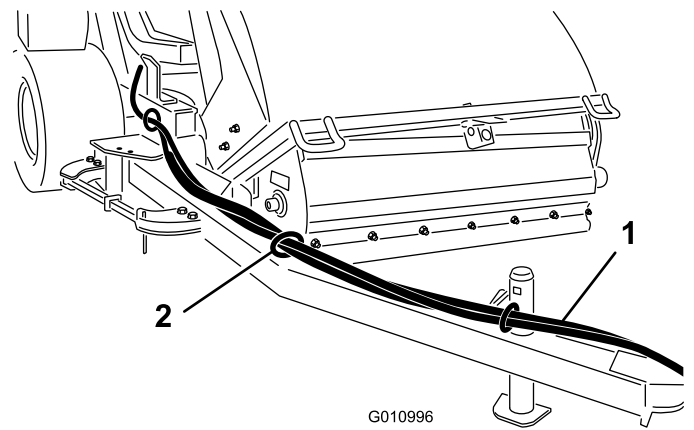

Figure 10
1. Route the hydraulic hoses and wire harness through the hose guides to the front of the hitch tongue (Figure 10).